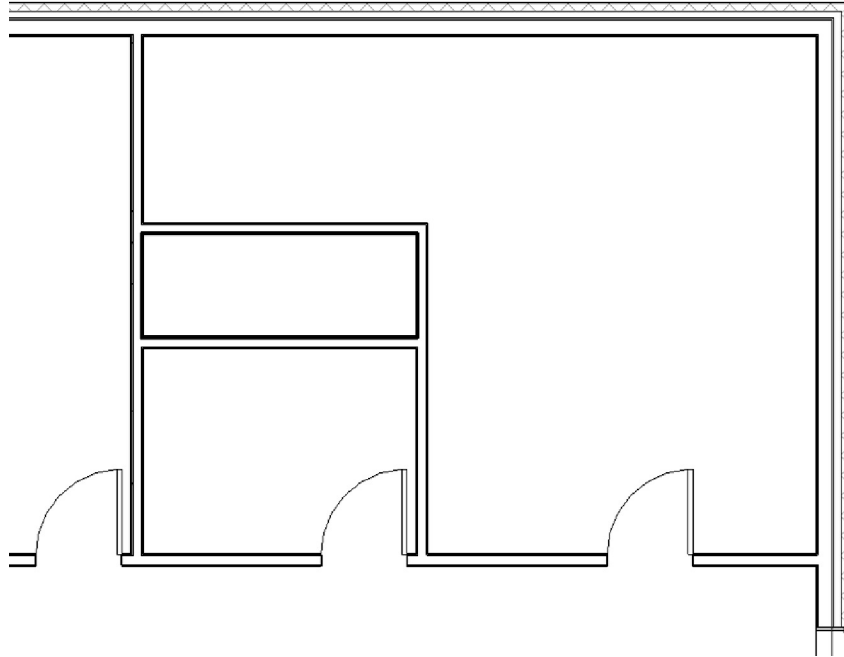

**FIGURE 7-3.9**
23. Zoom into the North stair, and make the edits shown in Figure 7-3.9.